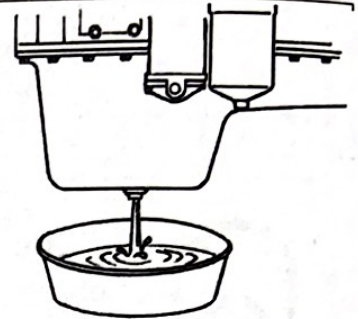

Fig 3-10 Drain the Oil
4.2 Warm up the engine until the oil temperature reaches 50~60°C. Unscrew the oil drain plug to drain the oil (see Fig3-10). Add cleaned diesel oil to clean the oil sump, and then drain them. Refill new oil after tightening the screws.